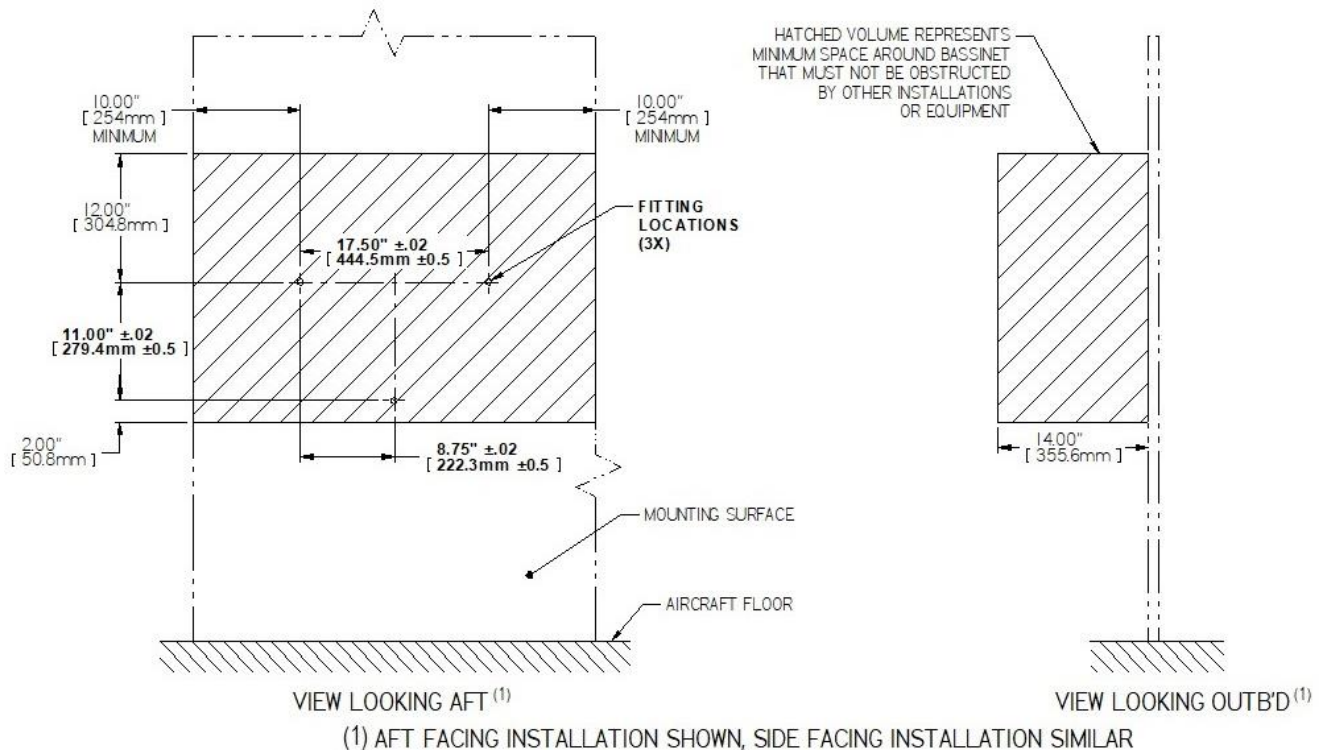

Figure 1: Installation Geometry
3. The bassinet can only be installed on a vertical, aft or side facing surface. To ensure optimal safety and parent / guardian accessibility to the bassinet, there must be no other equipment or interior items encroaching into the space around the unit, identified by hatched volume in Figure 1 of this document.
To be able to use the Tulmar Baby Bassinet in flight, one of the fittings specified on drawing NNAL526-111, included in Appendix A, must be permanently installed in the supporting structure, such as on the aft or side face of a partition or other interior monument (galley, washroom, etc.). The installation geometry is shown in Figure 1.
- 1) Locate and mark positions of sockets using Figure 1 in section 3.1.